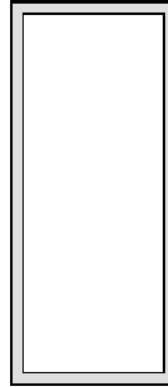

Figure 13. Solder Paste Application on Pins
4. The aperture opening for the signal pads should be between 50–80% of the QFN pad area as shown in Figure 13.